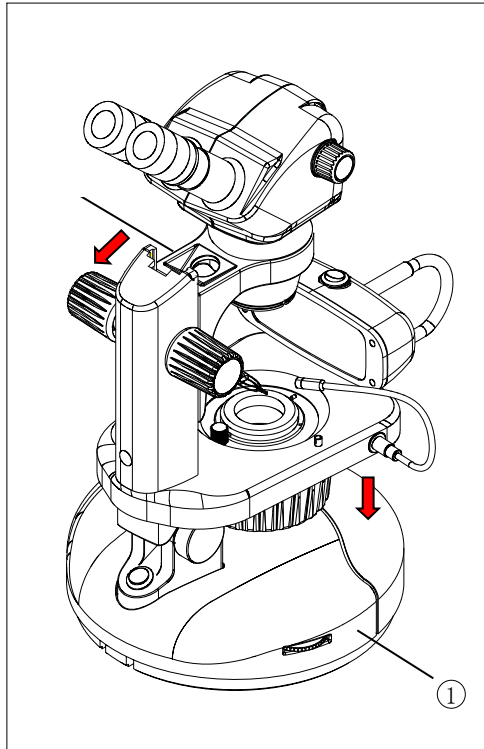

Fig. 5
3.1.1 Adjusting the base(Fig. 5)
3.1.2 Adjusting the tilt of stand(Fig. 5)